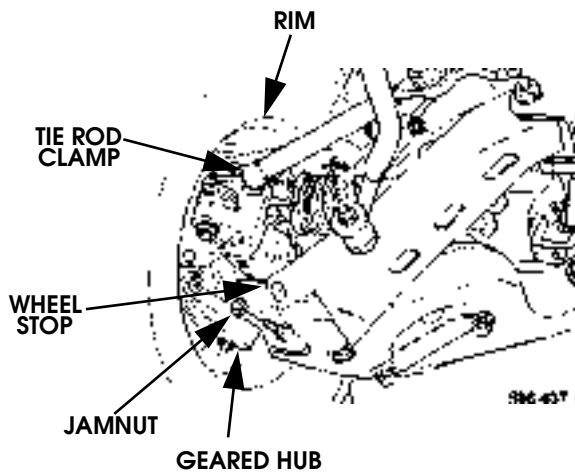

Figure 6-47: Steering Stop Adjustment
1. Loosen jamnut and remove bolt and jamnut from geared hub (Figure 6-47).
10. Unscrew bolt until head makes contact with wheel stop on lower control arm (Figure 6-47).